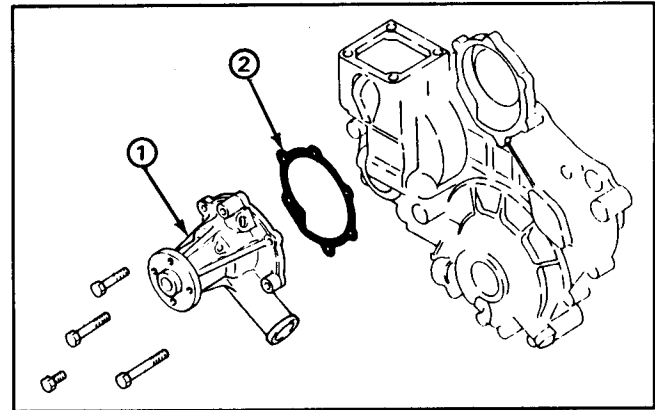

Figure 32
4. Remove the water pump (Fig. 32).